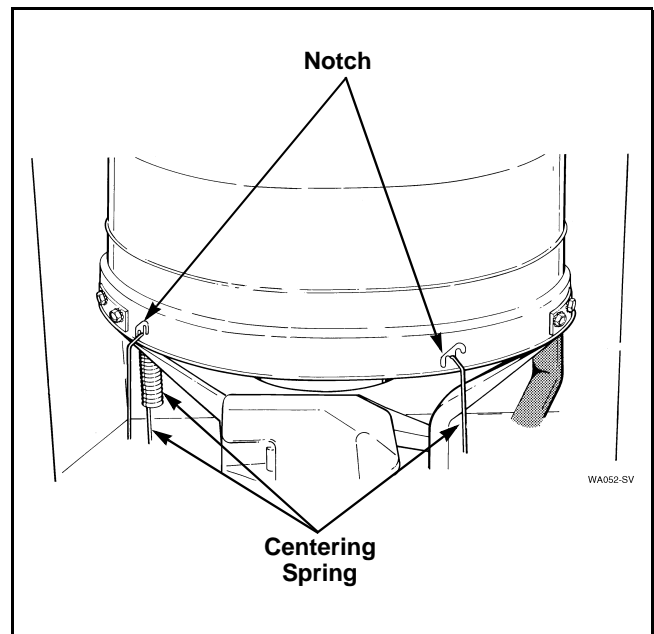

Figure 60
**IMPORTANT:** If the trigger repeatedly trips the out-of-balance switch lever, check the centering of the agitator within the loading door opening. Centering springs may have to be positioned in the upper or lower notch (positioned in center notch at factory) to center the agitator within the door opening. Refer to *Figure 60*.